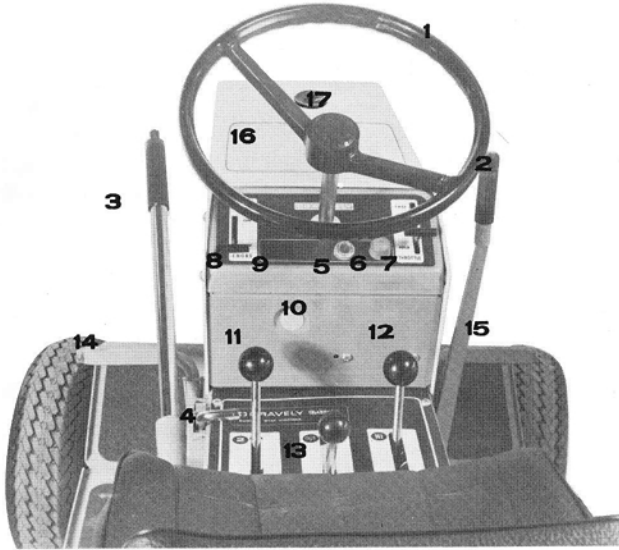

FIGURE 5
1. Move Choke Lever (7, Figure 5) from "OFF" position to "ON" position.
2. Move Throttle Control (8, Figure 5) to approximately halfway between "Idle" and "Fast" position.
3. Turn Ignition Key (5, Figure 5) to ON position, which is clockwise. NOTE: THIS IS NOT A STARTER-IGNITION KEY. IT IS A SAFETY FEATURE. STOP WHEN IGNITION KEY MEETS RESISTANCE.
4. Press Starter Button, (6, Figure 5). Do not hold depressed more than 30 seconds.
The Swiftamatic 8 Control, (12, Figure 5) pre-selects the range you desire, either "Hi" or "Lo" Range.
ALWAYS SELECT THE GROUND SPEED WHEN TRACTOR IS STOPPED, AND BRAKE (14 & 15, Figure 5) ON.
Refer to Figure 5. The left hand control, labeled "GEAR" is the lever which selects high and low gear. Number 1 is the low gear, number 2 the high gear.
You are now ready to start forward or reverse motion. This is controlled instantly, by the unique Forward and Reverse Handle, (2, Figure 5).